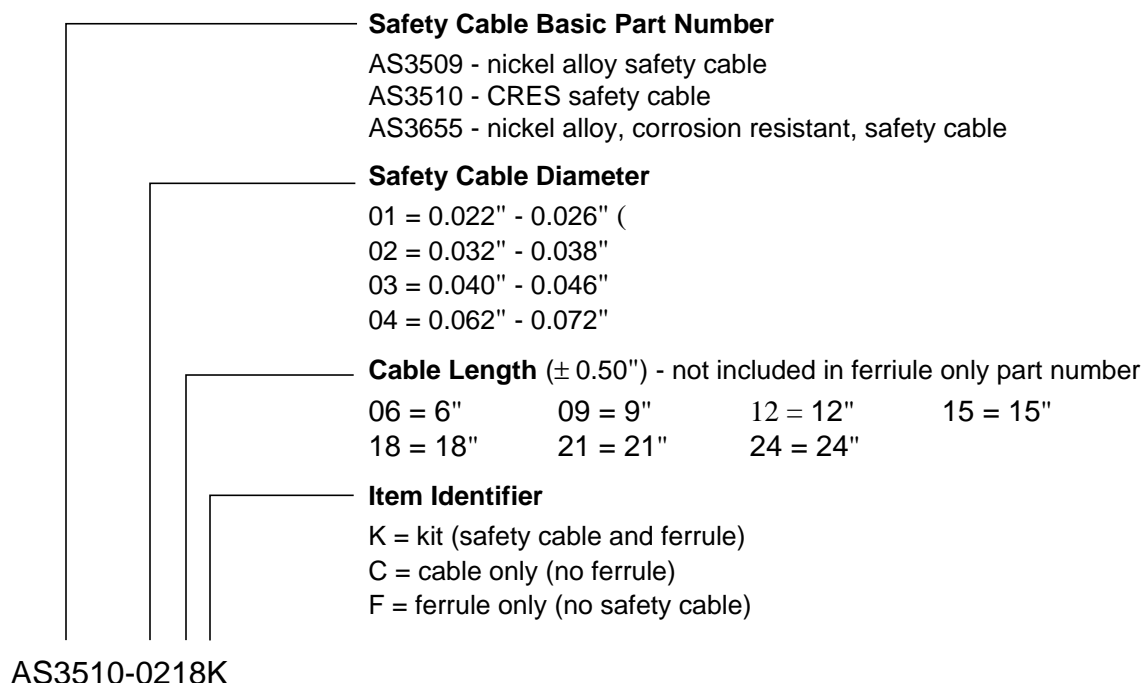

Figure 2 - Safety Cable Part Number Breakdown
- 4.1.4 Safety cable as specified in Table 3. See Figure 2 for a part number breakdown.